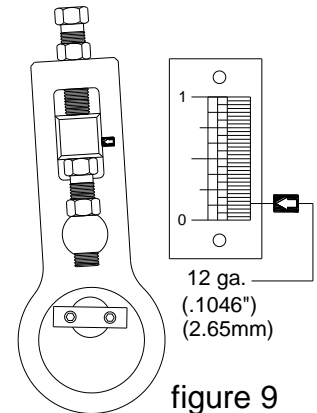

figure 9
1. Set the clamping beam to the thickness of the material you will be bending. (fig. 9) shows the adjusting bolts set for 14 ga. as read on the gauge. See the section on clamping beam pressure adjustments for setting the bolts.